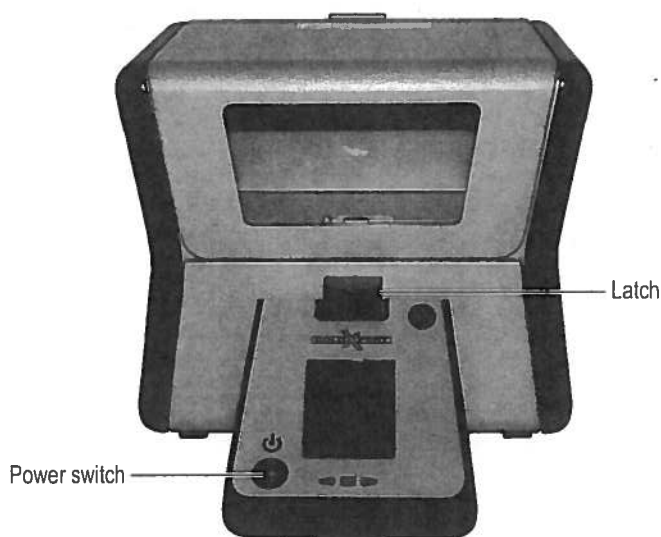

Figure 6-1 GoldXpert latch and power switch
3. Push down the latch (see Figure 6-1 on page 14).
4. Turn the analyzer on using the power switch (membrane switch) located in the bottom left corner (see Figure 6-1 on page 14).